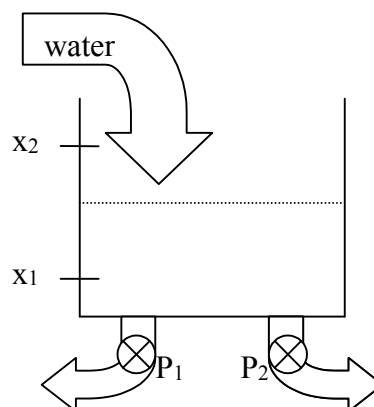

Fig 1. Pumps controlling the water level
1. Implement as microprogrammable circuit in a chosen by the supervisor structure (with or without multiplexer of condition), a circuit controlling the switching of two pumps. The pumps P_1 and P_2 (see fig.1) should be switched on alternately (only one pump can work at a time) when water exceeds the level of the sensor x_2 (i.e. when $x_2 = 1$). Working pump should be switched off when the water lever is below the sensor x_1 (i.e. when $x_1 = 0$). Assume that water level grows when pumps are off, and that it decreases when any pump is working.